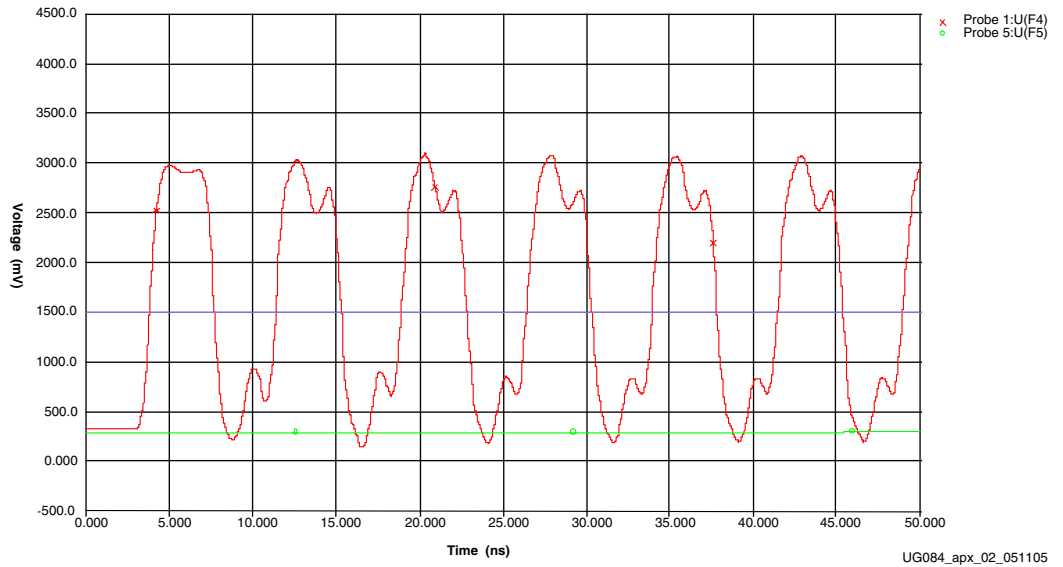

Figure A-2: Top Jumper in Place (R2 only)
- Figure A-2, Top Jumper in Place (R2 only)
In Figure A-2, the waveform shows destination pin U10.C13.